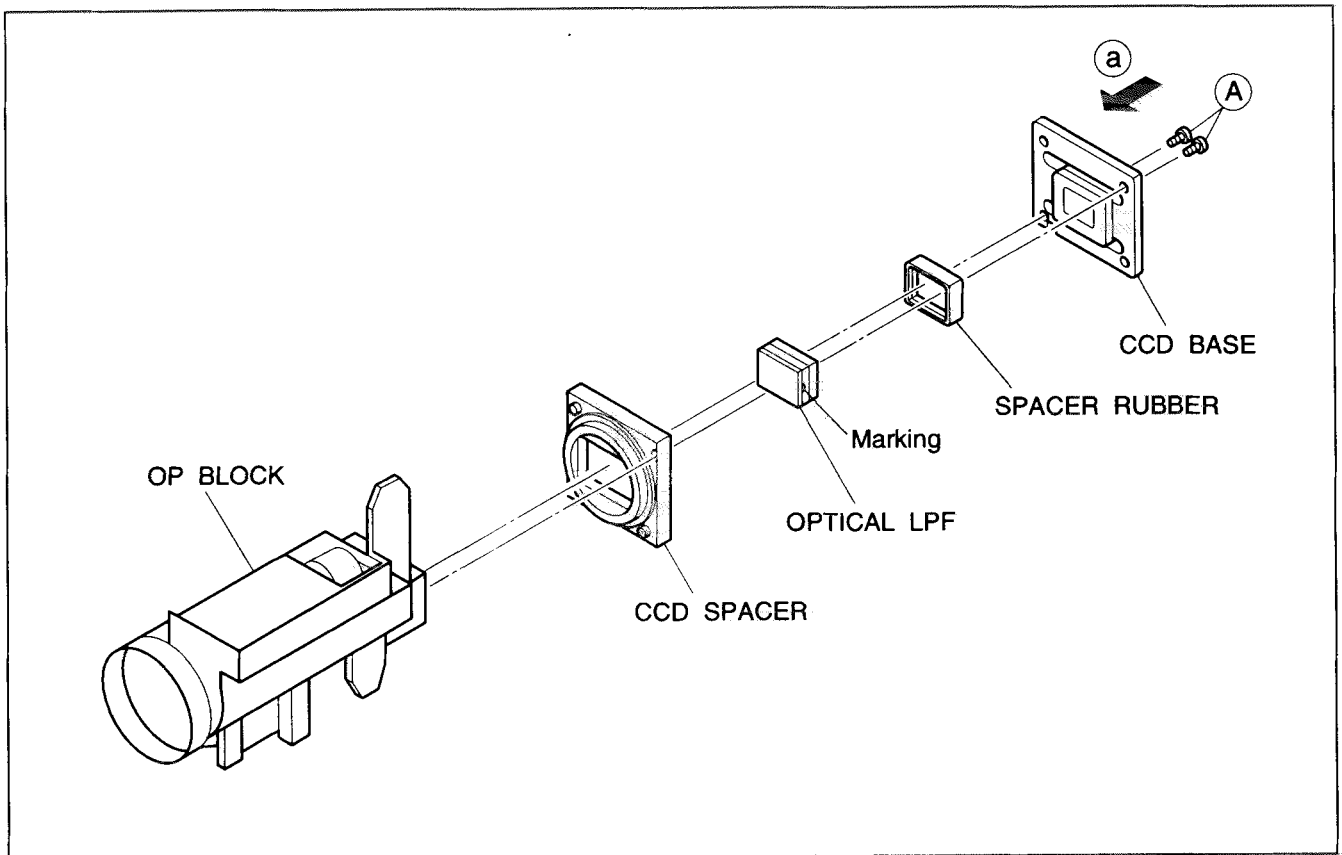

Fig. 1-6-1 CCD image sensor
1. Remove the protection seal from a new CCD image sensor. Next, put the spacer rubber, optical LPF, CCD spacer on the CCD image sensor as they are piled up in this order. At that time, make sure of orientation of each item referring to the following table (see Fig. 1-6-1).